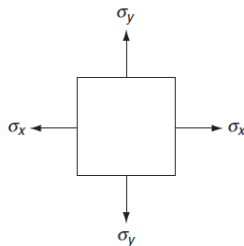

Figure 8 Question 21.
21. The following figure (Figure 8) shows the state of stress at a point in a stressed body. The magnitudes of normal stresses in the x and y direction are 100 MPa and 20 MPa, respectively. The radius of Mohr's stress circle representing this state of stress is: